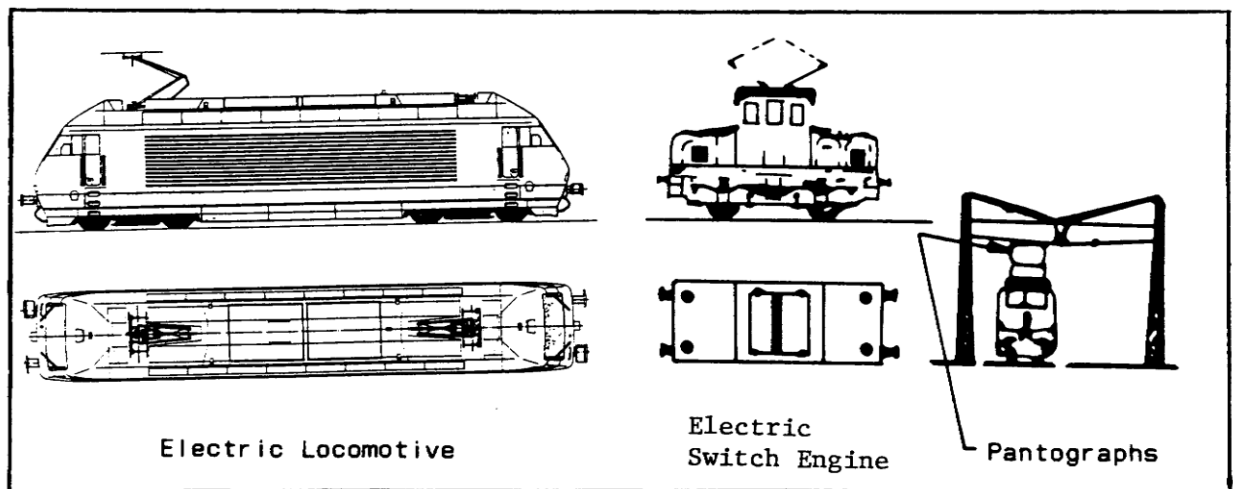

Figure 1-27. Electric Locomotive and Engine.
(2) Electric locomotives are not obvious on vertical imagery; some, in fact, are almost indistinguishable from passenger coaches. The pantographs (usually two) are mounted on the roof. They collect electric current from the overhead wire and are sometimes visible on clear or large-scale photography. The overhead gantries or pylons which carry the wires are usually visible (Figure 1-27).